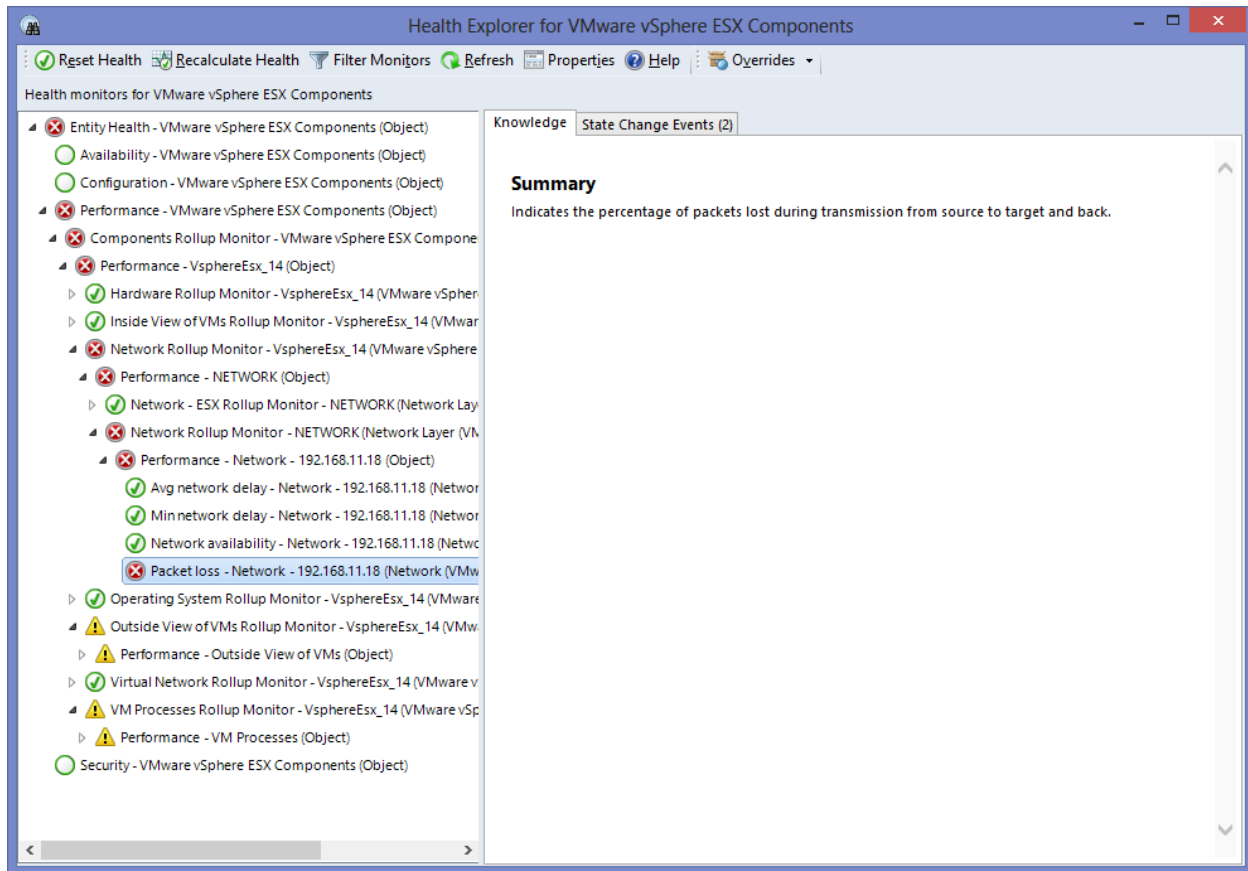

Figure 3.19: Health Explorer revealing the accurate reason for the Network problem with the VMware vSphere ESX server
10. This will invoke the layer model of the VMware vSphere ESX server. Each layer will be represented as a separate object in the topology and its state will be indicated. From the layer display, it is evident that the Critical issue has been detected in the **NETWORK** layer. If you now click on the '+' icon alongside **NETWORK**, the tests mapped to that layer will appear, accurately pinpointing the test that captured the Critical issue. In the case of our example, the Critical issue has been reported by the **Network** test. To zero-in on the precise issue, right-click on the **Network** test representation in the topology and pick the **Health Explorer** option. Figure 3.19 will then appear pointing you to the exact measure that deviated from the threshold and caused the Critical problem. As can be inferred from Figure 3.19, a high packet loss on the network link to the VMware vSphere ESX server is what led to the Critical state of the vSphere server.